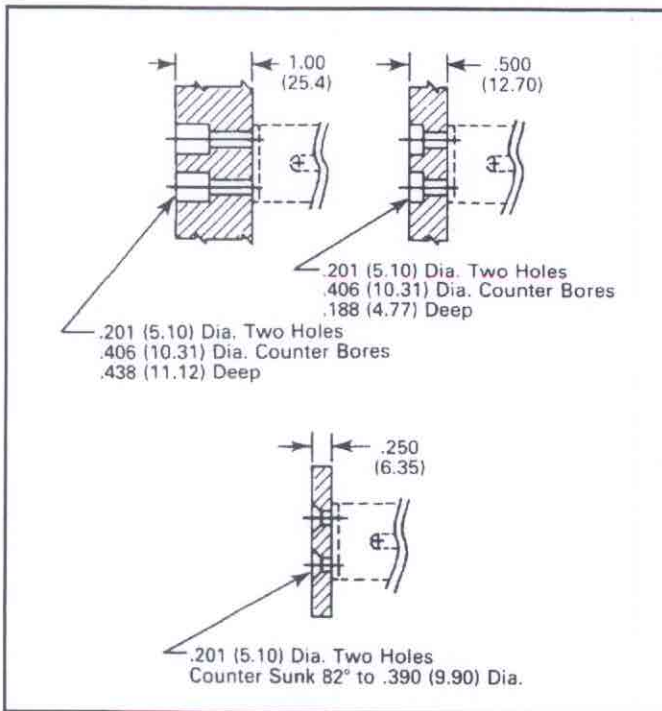

Fig. 2-1 Hole Sizes for Installing Walking Beam Mounting Bracket
- 2-1. Determine thickness of customer-supplied mounting panel. From Fig. 2-1, select hole type and sizes for installing walking beam mounting bracket. For panel thicknesses from .125 inch to less than .500 inch, use countersunk holes. For panel thicknesses from .500 inch up to 1.00 inch, use counterbored holes.